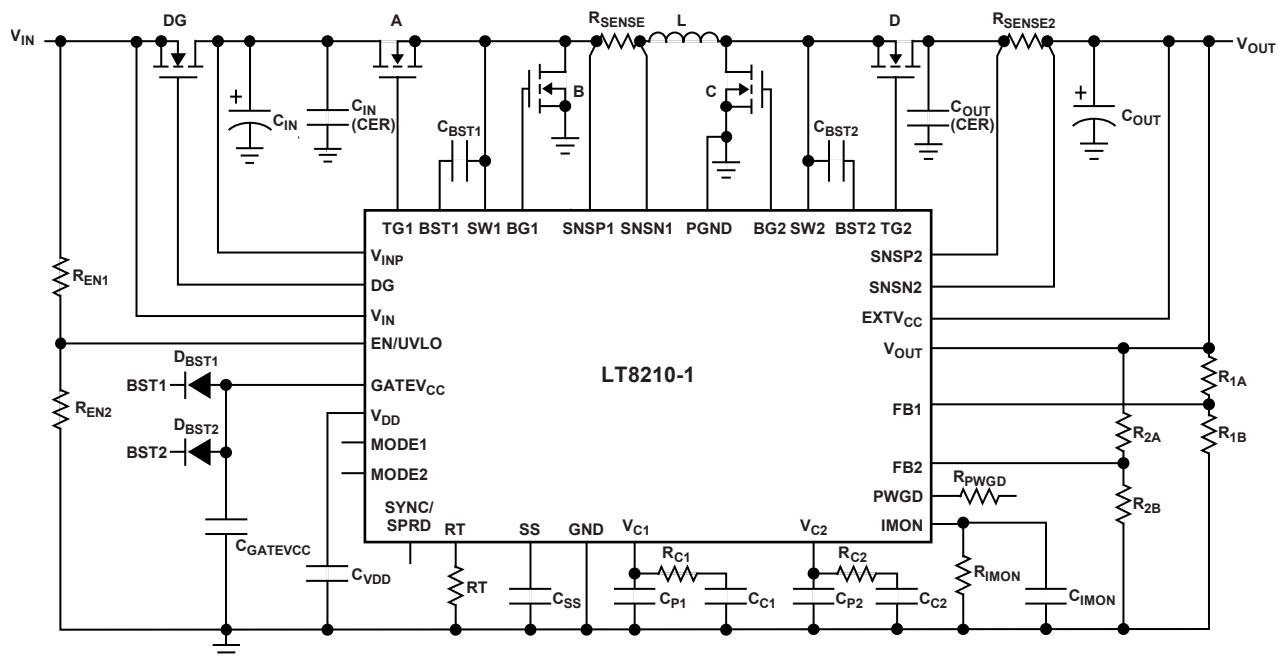

Figure 60. Basic LT8210-1 Applications Circuit
The applications information section serves as a guideline for selecting external components based on the details of the application. For this section, refer to the basic LT8210-1 application circuit shown in Figure 60. Component selection typically follows the approach described below:
The LT8210-1 requires four external N-channel power MOSFETs (switches A, B, C, and D in Figure 60). The gate drive voltage of the LT8210-1 is typically greater than 10V allowing the use of both logic-level and standard-level threshold devices. The MOSFET maximum  $V_{BR(DSS)}$  and drain current ( $I_D$ ) ratings should exceed the worst-case voltage and current conditions of the application, with an added margin for safety. The maximum continuous drain current of a power MOSFET is de-rated as a function of temperature, with that information commonly available in the data sheet. It is important to consider power dissipation when selecting power MOSFETs. The most efficient circuit will use MOSFETs that dissipate the least amount of power. Dissipated power and the resulting temperature rise in external components will set the upper bound on the power that can be delivered by the LT8210-1. MOSFET power dissipation comes from two primary components: (1)  $I^2R$  conduction losses when the switch is fully turned on and drain current is flowing, and (2) power dissipated while the switch is turning on or off. Conduction losses are independent of frequency. Switching losses, on the other hand, scale with frequency and voltage. Generally speaking, conduction losses are dominant at higher currents and lower voltages, whereas switching losses tend to dominate at lower currents and higher voltages. Accurately predicting MOSFET power dissipation is a complex problem that is best suited to efficiency calculators such as those included in LTpowerCAD® II. That being said, efficiency calculators are no substitute for real-world measurements. The following section provides approximations of the main source(s) of